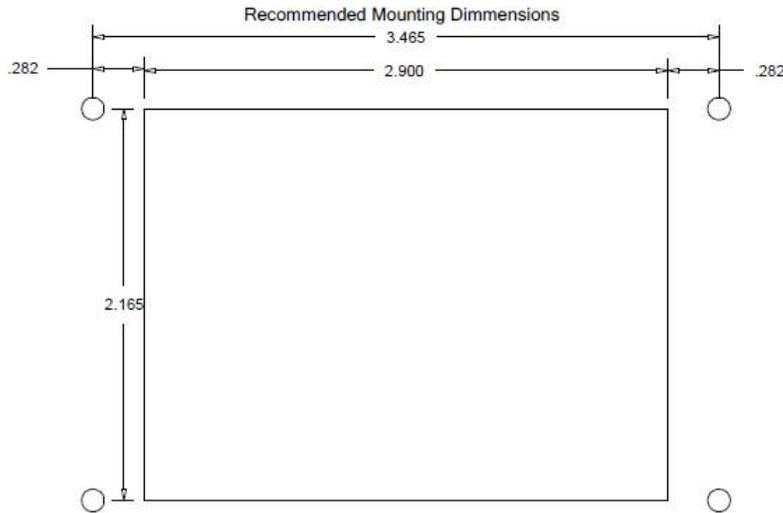

Figure 6- EasyTouch Display Mounting Dimensions
2. Make the cut-out for the display panel as shown in Figure 6. Cut-out size is 2.900" (74mm) wide by 2.165" (55mm) tall.